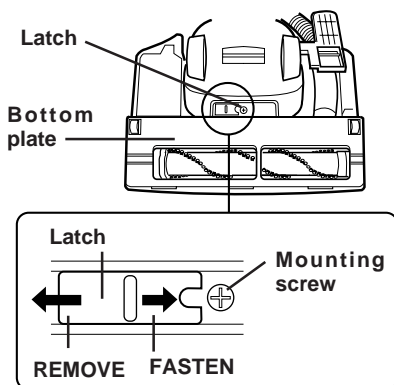

Fig.30
Loosen the bottom plate by sliding the latch away from the mounting screw. (Fig.30)
- 2 Fasten it by sliding the latch as shown. (Fig. 30)